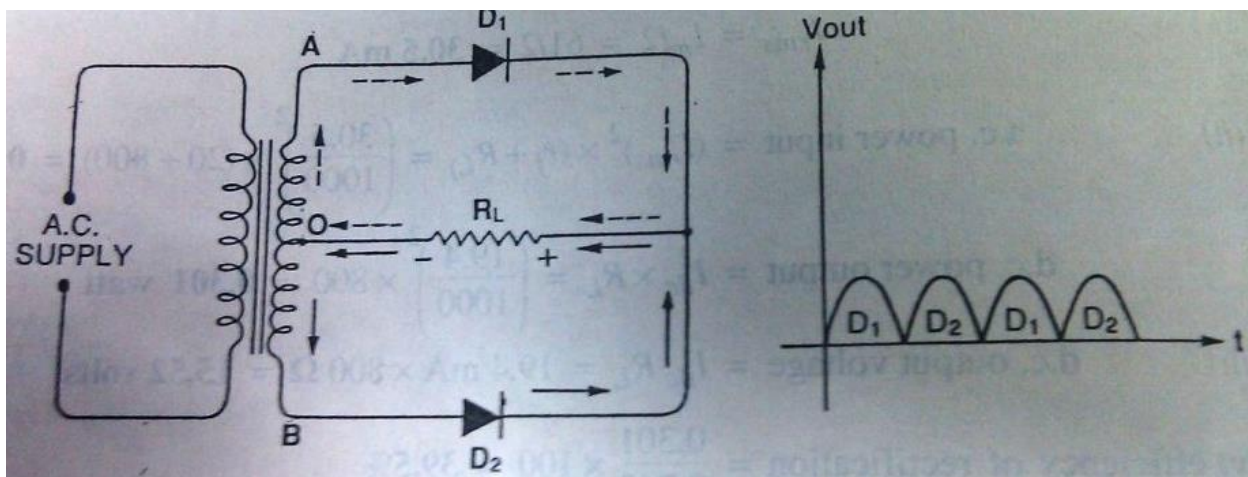

Figure 1.2.7.
The circuit employs two diodes  $D_1$  and  $D_2$  as shown in Figure 1.2.7. A centre tapped secondary winding AB is used with two diodes connected so that each uses one half cycle of input ac voltage. In other words, diode  $D_1$  utilizes the ac voltage appearing across the upper half OA of secondary winding for rectification while diode  $D_2$  uses the lower half winding OB.
**Operation:** During the positive half cycle of secondary voltage, end A of the secondary winding becomes positive and end B negative. This makes the diode  $D_1$  forward biased and diode  $D_2$  reverse biased. Therefore diode  $D_1$  conducts while diode  $D_2$  does not. The conventional current flow is through diode  $D_1$ , load resistor  $R_L$ , and the upper half of secondary winding as shown by the dotted arrows. During the negative half cycle, end A of the secondary becomes negative and end B positive. Therefore, diode  $D_2$  conducts while diode  $D_1$  does not. The conventional current flow is through diode  $D_2$ , load resistor  $R_L$ , and the lower half of secondary winding as shown by solid arrows. Referring to Figure 1.2.7, it may be seen that current in the load  $R_L$  is in the same direction for both half cycles of input ac voltage. Therefore, dc is obtained across the load  $R_L$ . Also, the polarities of the dc output across the load should be noted.